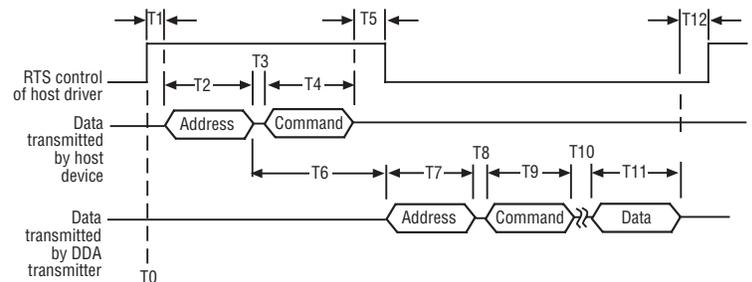

Figure 27. Network protocol timing information
Network protocol timing sequences (interrogation sequences) are shown in (*Figure 27*). This time line representation of data transmission sequences also provides information about host computer control of the RS-485 communication card and also illustrates driver enabled control through the RTS control line.
1. The start of the sequence begins when the host enables its RS-485 driver to transmit the Address/Command bytes (see time line 'T0' in *Figure 27*).
Many available communication cards (line drivers) for use with the host computer device use a special control line input to control the enabling and disabling of the RS-485 driver. Typically this input is connected to the computers RTS or DTR communication port control line. The computer can then control the state of the driver by toggling the RTS or DTR signal lines via software control. An example of this control method is shown in (*Figure 27*). Other control methods are also used depending on the manufacturer of the equipment.